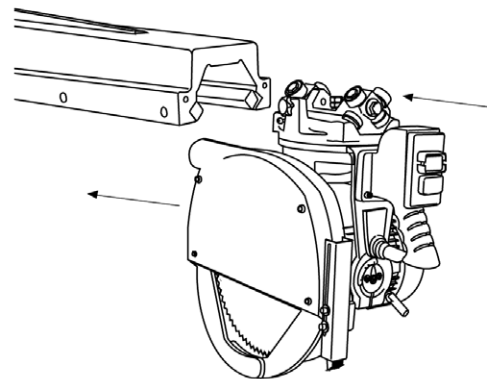
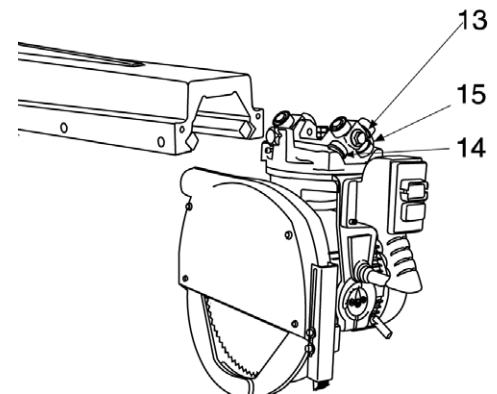

Fig. A5
Fig. A6
- 5) Insert the working assembly (tool rest, fork, motor) into the seat (see fig. A5). The working assembly is inspected by our quality control department. Eliminate play if any as follows. Release the nut (13) By 19mm open wrench, turn the screw (14) and tightly draw the nut (15). Tighten the nut (15) and nut (13) when the adjustment is complete (see fig. A6).